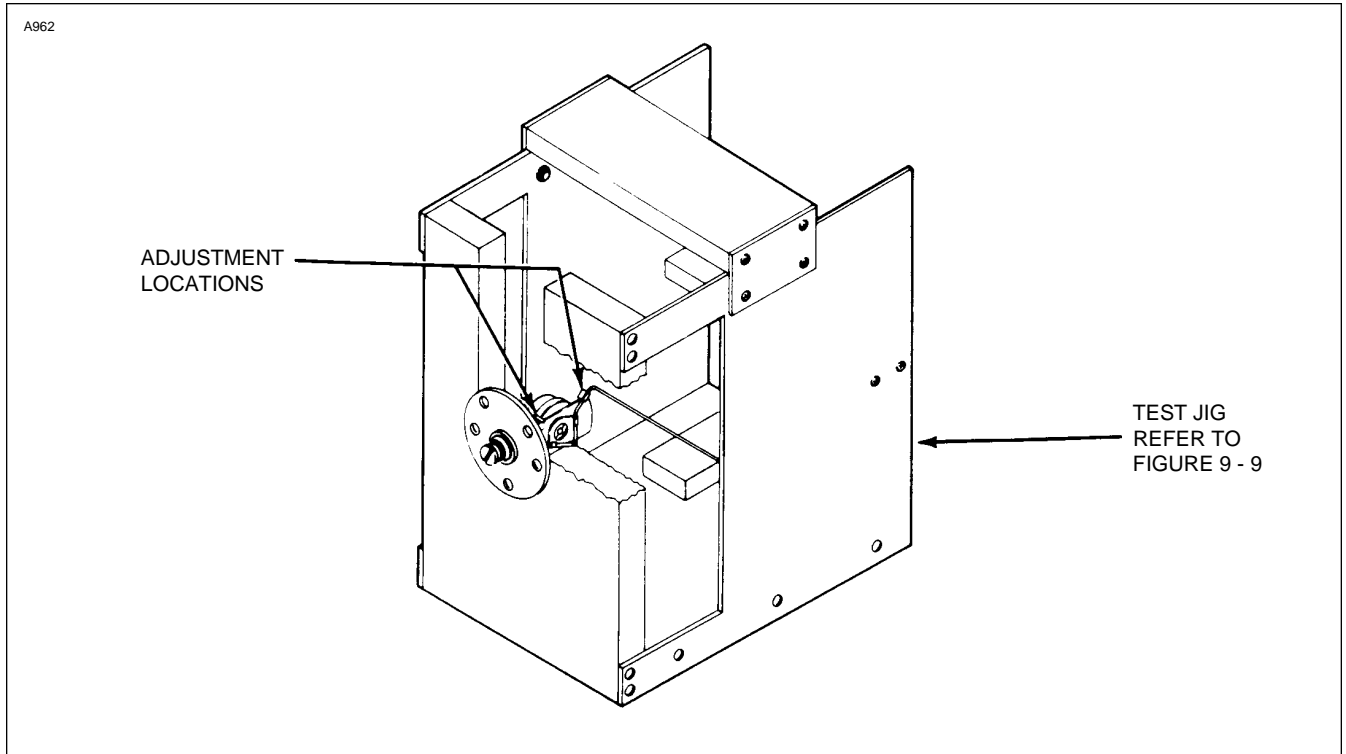

Figure 9-3 Fuel Quantity Transmitter Checking Jig
9-16. CHECK AND ADJUSTMENT OF FUEL QUANTITY TRANSMITTER UNIT. (Refer to Figure 9-3)
2. Ascertain that with the float arm down against the mechanical stop on the transmitter, the float is just touching the top of a 0 .27 of an inch spacer block. Should the float not be touching the spacer or the float arm is not against the bottom stop, adjust the arm stop of float assembly, by bending it where shown in Figure 9-3. The entire surface of the float must be horizontal with the base of the jig.